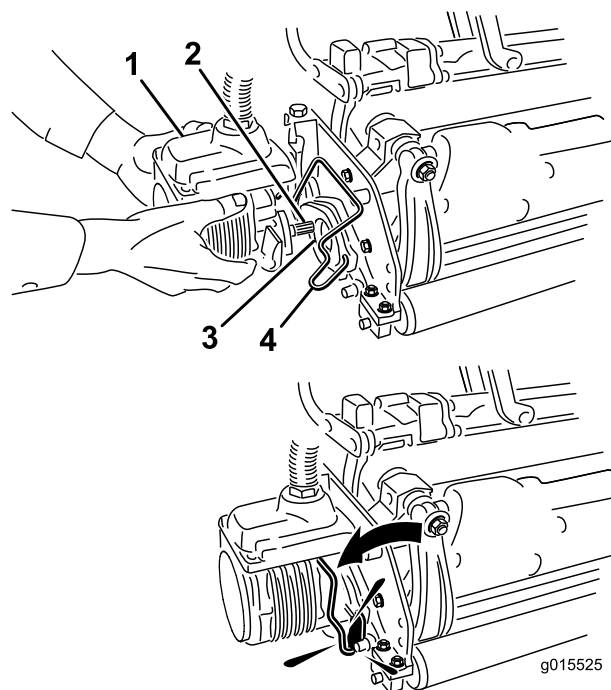

Figure 15
11. Coat the spline shaft of the cutting unit motor with clean grease (Figure 15).
12. Insert the motor into the left side of the cutting unit (as viewed from the operator's position) and pull the motor retaining bar on the cutting unit toward the motor until you hear an audible “click” from both sides of the motor (Figure 15).